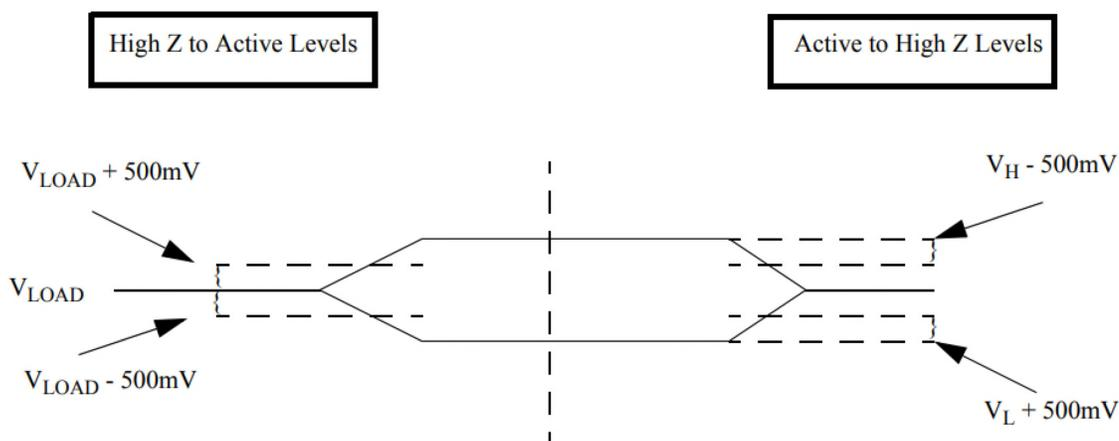

Figure 3. 5-Volt SRAM Loading
- 2) Three-state is defined as a 500mV change from steady-state output voltage (see Figure 3).
- 2) Three-state is defined as 500mV change from steady-state output voltage (see Figure 3).